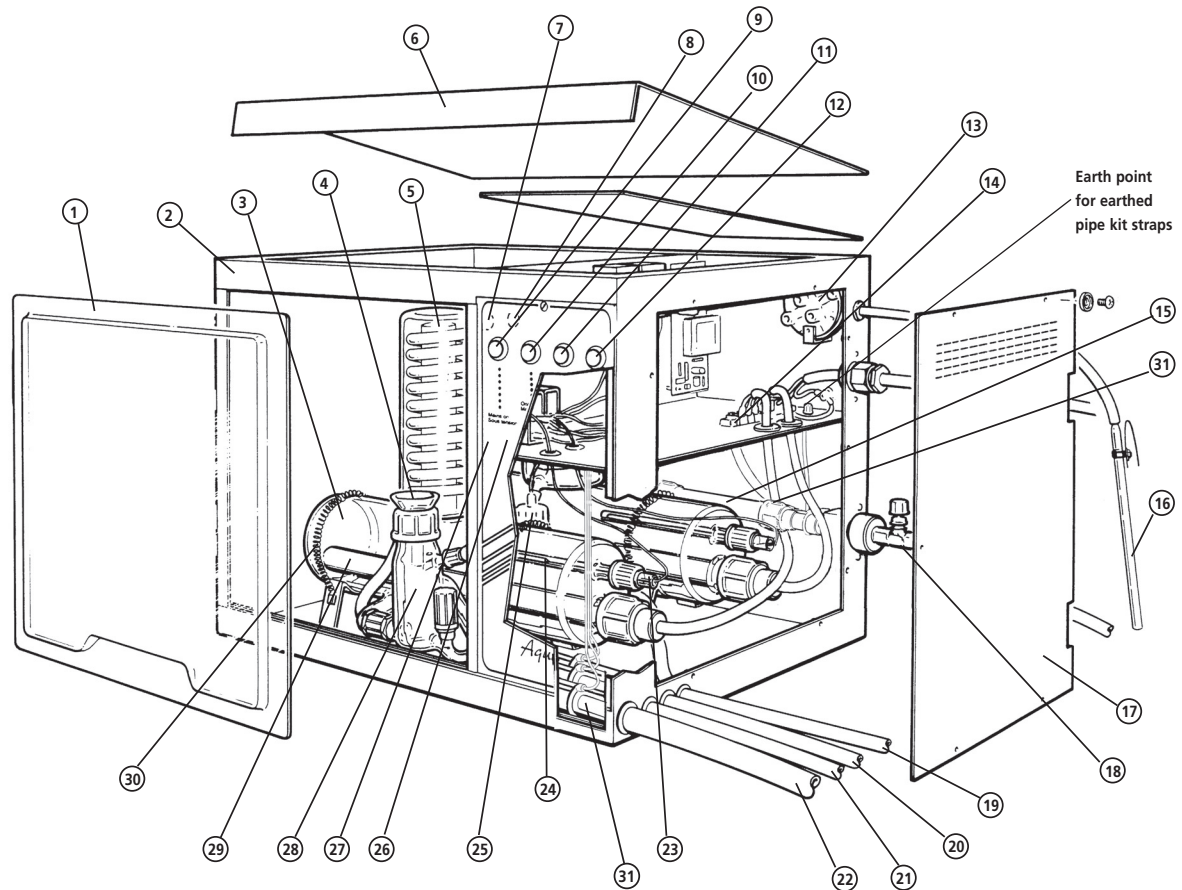
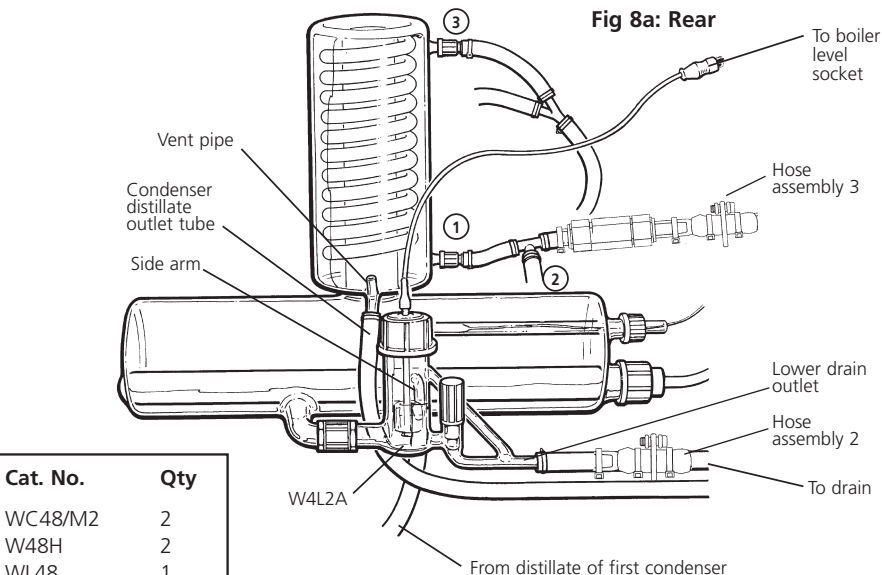
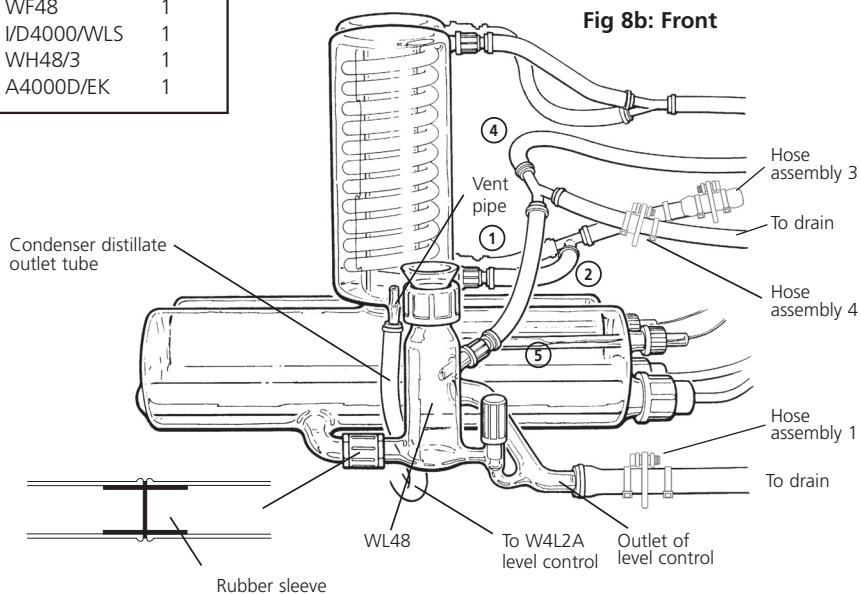
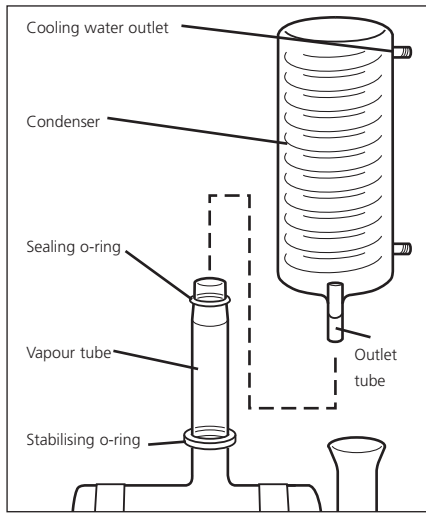

Fig 7: Major component parts A4000D
Fig 8a: Rear
Fig 8b: Front
Fig 3a
Your Aquatron A4000D has been designed with ease of assembly specifically in mind, but before commencing assembly please study the illustration, fig. 7 on page 10 to familiarise yourself with the general lay-out. During assembly, follow the sequence of instructions and do not connect the mains electricity supply until directed.
- 3 Remove the perspex viewing screen, item 1 fig. 7 by using the finger recess to lift the screen out of the lower cabinet groove, then remove the internal packing which has protected the glass boilers during transit. Also sever the temporary ties holding the boiler retaining springs, item 30, in place.
- 4 Remove the cabinet end plate, item 17 by unscrewing the six retaining screws and 'shake proof washers'. Similarly, unscrew the six countersunk screws to remove the cabinet roof (item 6).
- 5 Withdraw the metal thermostat probe, fig. 7. item 24, from the glass tube inside the front boiler.
- 6 Remove the front boiler from the cabinet by releasing the retaining springs, item 30.
- 7 Ensure that the sealing o-ring and stabilising o-ring are correctly positioned, as shown in Figure 3a. Mount one of the condensers WC48/M2 onto the vapour tube of the rear boiler with the distillate outlet facing the front. See fig. 8a.
- 8 Select one of the 1000mm lengths of 8mm vinyl tubing and connect to the condenser distillate outlet tube of the rear condenser. Secure with tie strap. Pass the free end of the vinyl tubing through hole, item 19 in the cabinet side.
- 12 Connect the 4 pin DIN plug from the float switch of the W4L2A to the DIN socket, item 8, fig.7, situated inside the main chamber of the cabinet.
- 14 Ensure that the sealing o-ring and stabilising o-ring are correctly positioned, as shown in Figure 3a. Fit the remaining condenser onto the boiler with the distillate outlet at the front. See fig. 8b.
18 Connect the open end of the 16mm tubing of hose assembly 1 to the outlet of the level control WL48 item 28 fig7. Secure with a tie strap. Ensure that the Rotaflo Stopcock of the WL48 is closed.
20 Looking inside the cabinet, identify the vinyl tubing assembly fitted with 5 numbered screwthread connectors. Referring to illustration fig. 8a and 8b make the following connections:-
30 Connect the cold water supply to connection 18 fig. 7.
5. For hose assembly 3 connect the 8mm tubing from the spigot to the water flow control switch and secure with a tie-strap. Connect the free end to the mains water inlet valve and secure with tie-straps. See figs. 8a and 10b.
7. Refer to fig. 8b and 10c. For hose assembly 4 connect the shorter 8mm vinyl tube to the junction where hose's 4 and 5 meet. Feed the free end of the 8mm tube through exit labelled 21, Fig. 7